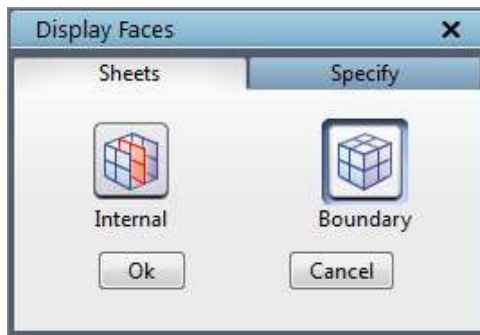

Figure 5.6: Faces dialog box
**Faces**  button is used to create a sheet consisting of all block faces on all the external grid surfaces. It creates grid sheets for all surfaces, displayed in different colours. Clicking on the Faces button opens a dialog box in the pop-up section, as shown in Figure 5.6. To create grid sheets on external surface/boundary surfaces, use the **Boundary** button in the **Sheets** tab of the **Display Faces** pop-up, similarly for internal surfaces, use the **Internal** button. By default, the **Boundary** button is depressed.